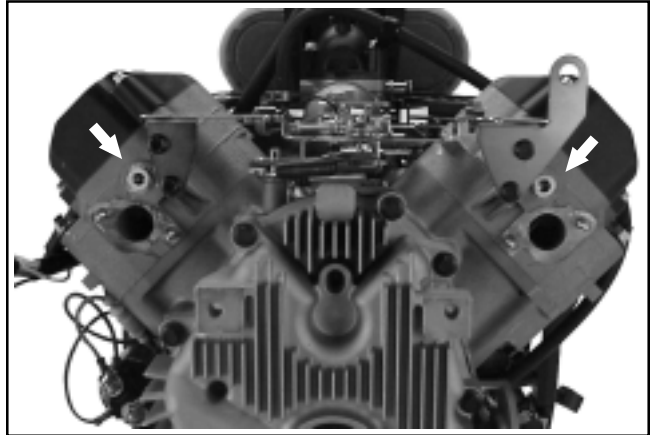

Figure 9-9. Location of Coolant Drain Plugs.
2. Carefully remove the coolant drain plugs in the lower side of both cylinder heads. See Figure 9-9. Drain the coolant into a suitable container. Early production units contained steel plugs, remove only when the cylinders are cool. Replace with brass (soft) plugs on reassembly, Kohler Part No. 66 139 01-S.